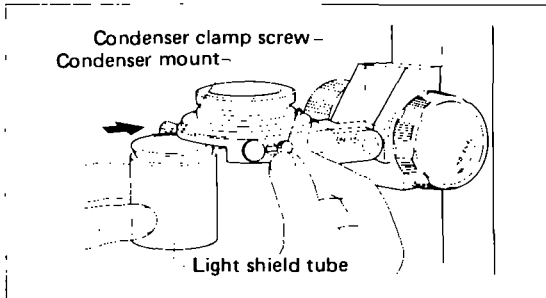

Fig. 7
5. Attaching the light shield tube (Fig. 7)
Attach the light shield tube to the condenser mount on the microscope stand, as shown in Fig. 7.